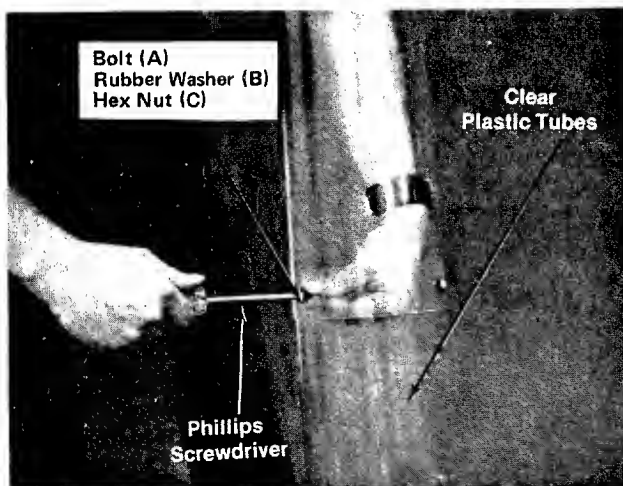

FIGURE 9
2. Secure them together (at each hole) with a bolt (A), two rubber washers (B) (each side of tube), and hex nut (C). See figure 9.